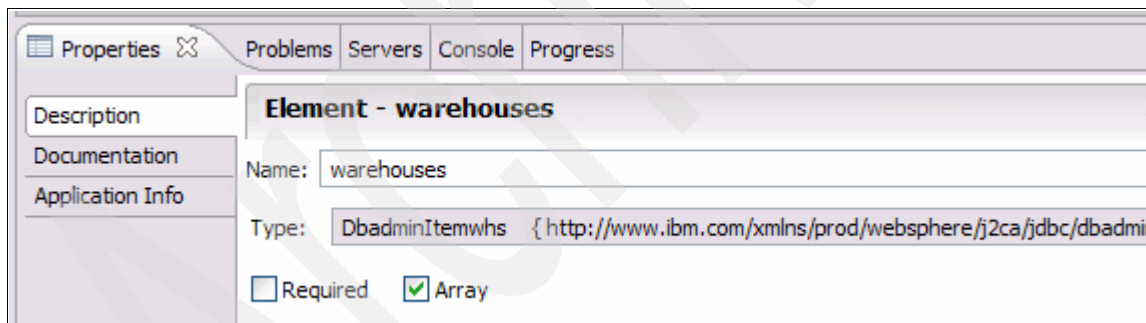

Figure 5-21 Make the warehouses field an array
- Now, select the **warehouses** field of DbadminItem, and open the Description tab in the element's Properties. Make sure that the **Array** property is selected, as shown in Figure 5-21.